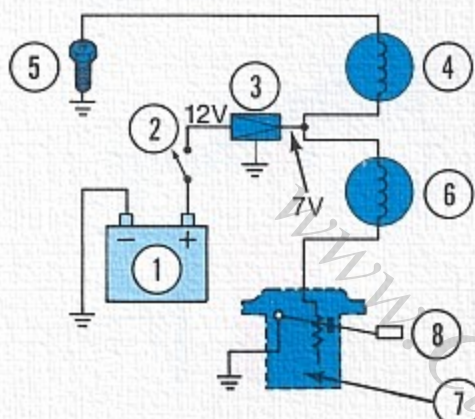

Fig. 100 Fuel Level and Coolant Temperature Gauge Circuits
A diagram of the Honda GL-1000 fuel level and coolant temperature gauge circuit is shown in Fig. 100. The sensors and gauges require a 7 volt power supply. Since the Honda GL-1000 has a 12 volt battery, a voltage regulator (3) is used to reduce the voltage in this circuit to 7 volts.